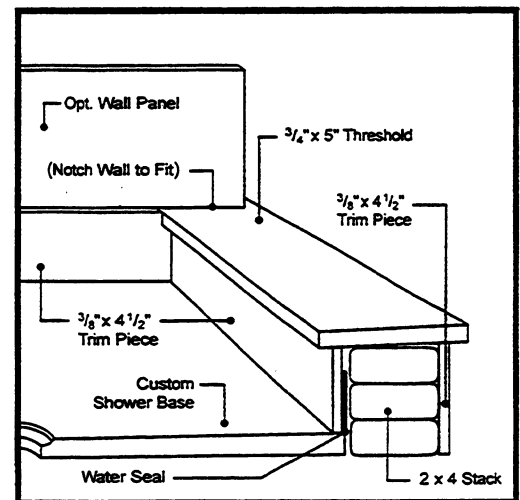

Fig. 2
- Step 7. Construct a threshold across the open side. Install three stacked 2 x 4's against the shower base. Secure firmly to the floor. Bond the 3/8" x 4-1/2" trim piece to the outside face of the stacked 2 x 4's. Scribe and fit another piece to the inside of the shower base water seal. This piece should not project above the stacked 2 x 4 support. Then bond the 3/4" x 5" threshold piece on the top of the assembly. This piece should be installed pitching toward the base at 1/4" per foot. The width of this piece allows an overhang and room for alternative construction of the threshold (See Fig. 2).